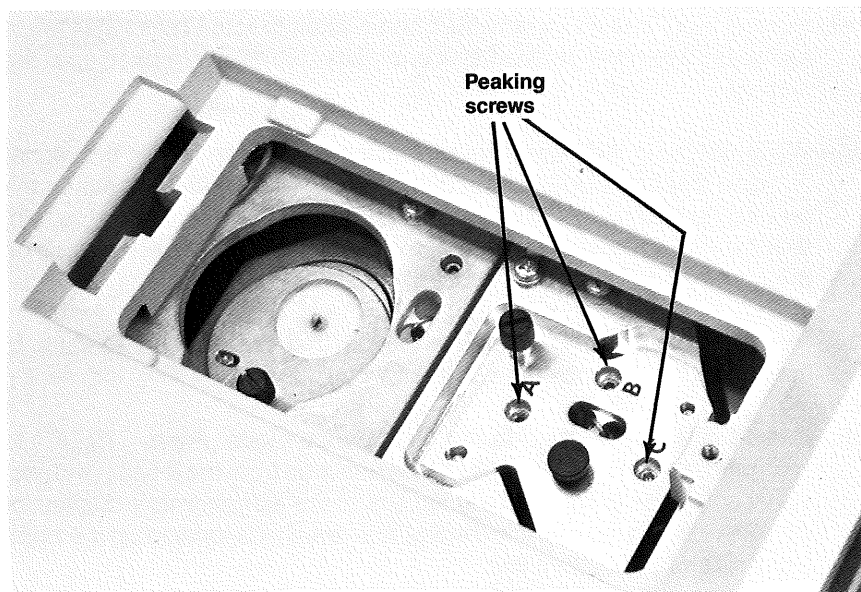

Figure 8-15.
16. Locate the 3/32" hex driver, provided in the shipping kit. Also, locate the peaking screw labelled "C" on the top of the source bracket. See Figure 8-15.